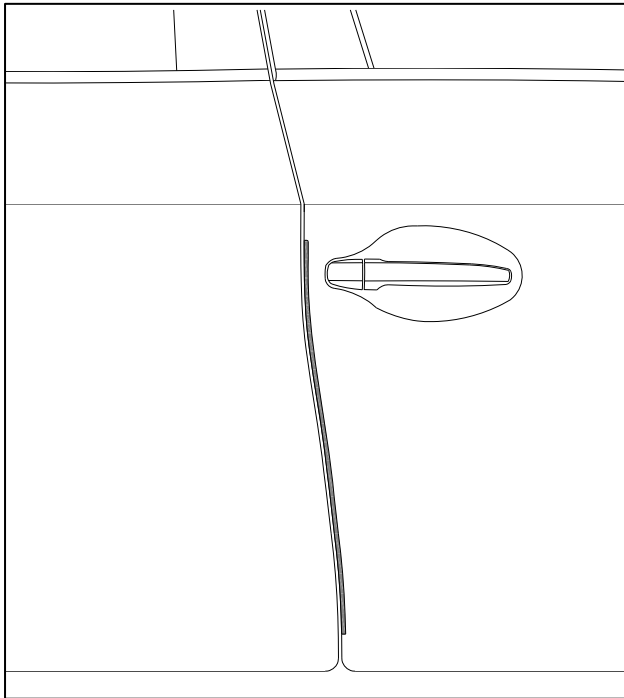

Fig. 1-6
- (i) Carefully close front door and ensure DEG has sufficient clearance from any adjoining body panel. Carefully remove template from door and retain for use on driver side. (Fig. 1-6)